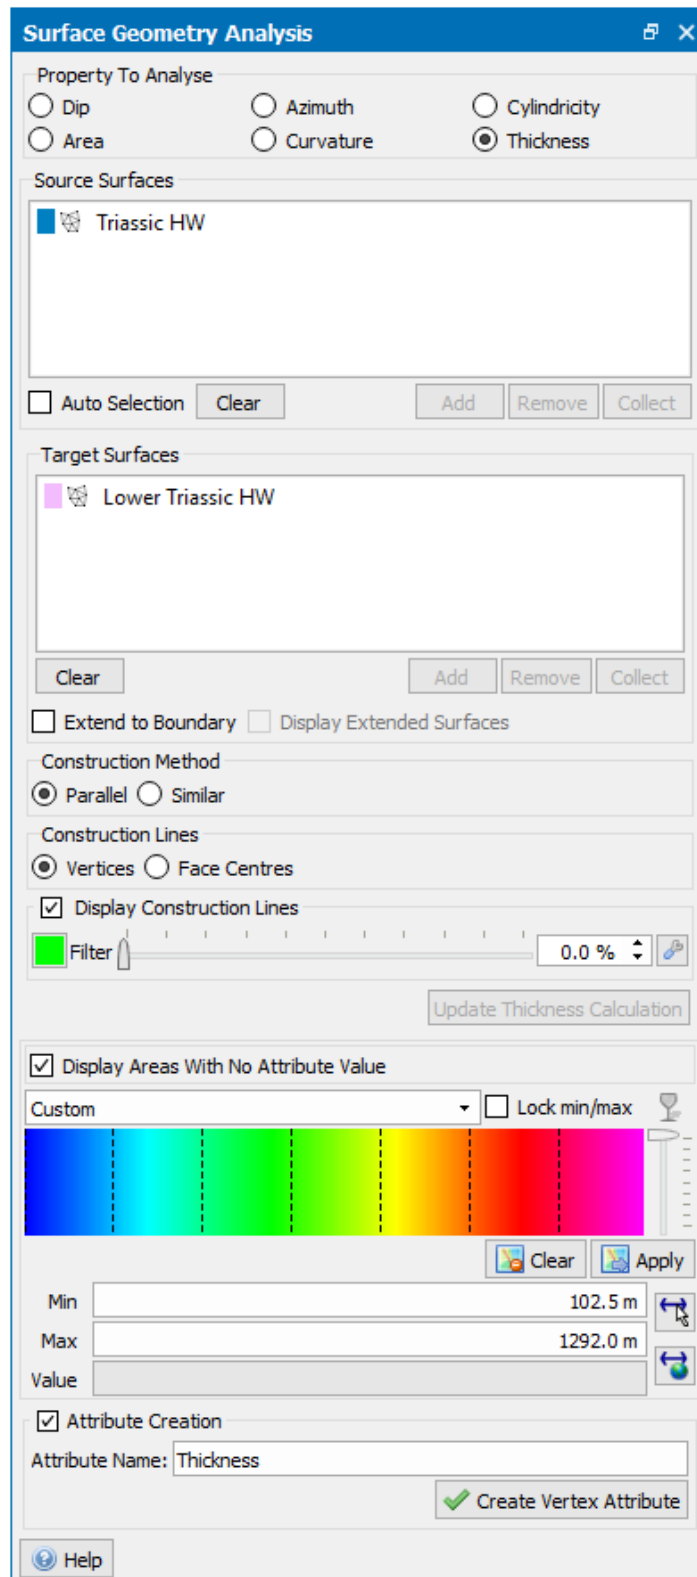

Figure 8. Surface Geometry Analysis window with options selected to calculate Triassic HW thickness.
2. As shown in Figure 8, under **Property to Analyse**, select **Thickness**, collect Triassic HW as the **Source Surface**, collect Lower Triassic HW as the **Target Surface**, click on the **Attribute Creation** option and click **Create Vertex Attribute**.